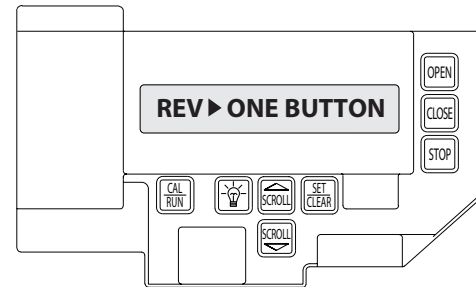

Figure 2
- 2) Press SCROLL  until display reads "GDO V# > #####." **Figure 2.** This display will cycle between the version number of the current GDO firmware and the current Display Firmware.